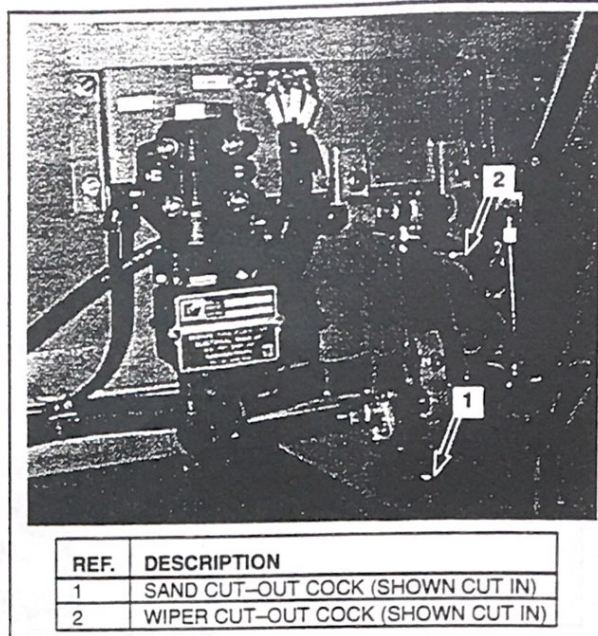

FIG. 28. FRONT SANDER AND WIPER CUT-OUT COCK. E-42744.
11. Sander Control Cut-Out cocks - The front sander cut-out cock (Item 1, Fig. 28) is located in the nose compartment. The cut-out cock (Item 1, Fig. 29) for the rear sander is located inside the radiator compartment below the sand box.
12. Wiper Cut-Out cock - The wiper cut-out cock (Item 2, Fig. 28) is located in the nose cab.